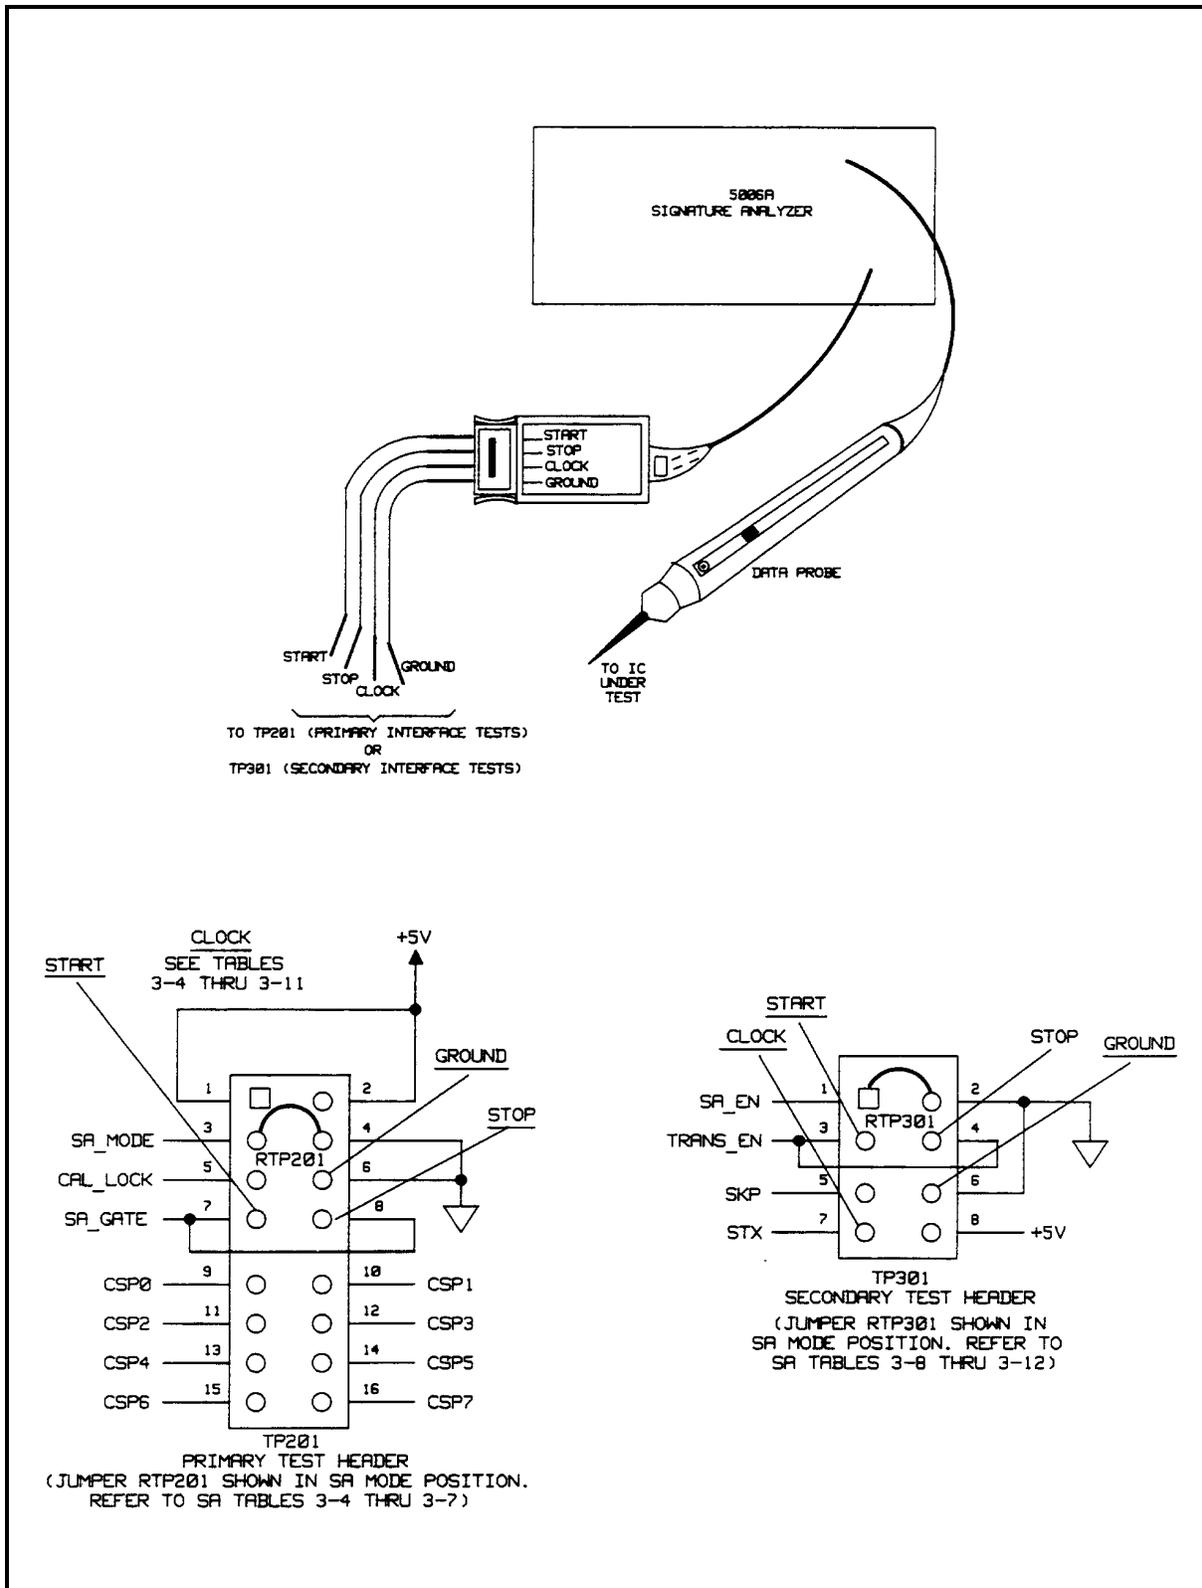

Figure 3-2. Test Headers Test Setup for Signature Analysis
Figure 3-2 illustrates the primary (TP201) and secondary (TP301) test header connections required to perform the S.A. Tests given in Tables 3-4 through 3-12. The following is a description of the test setup:
1. Connect jumper RTP201 in the S.A. position (SA_MODE) across pins 3 and 4 of the primary test header TP201 (see Figure 3-2).
1. Connect jumper RTP301 in the S.A. position (SA_EN) across pins 1 and 2 of the primary test header TP301 (see Figure 3-2).
- e. Upon completion of the S.A. tests, return jumpers RTP201 and/or RTP301 to their normal operating positions of TP201 and TP301 as follows (see Figure 3-2): RTP201 between TP201-7 and TP201-8; RTP301 between TP301-3 and TP301-4.